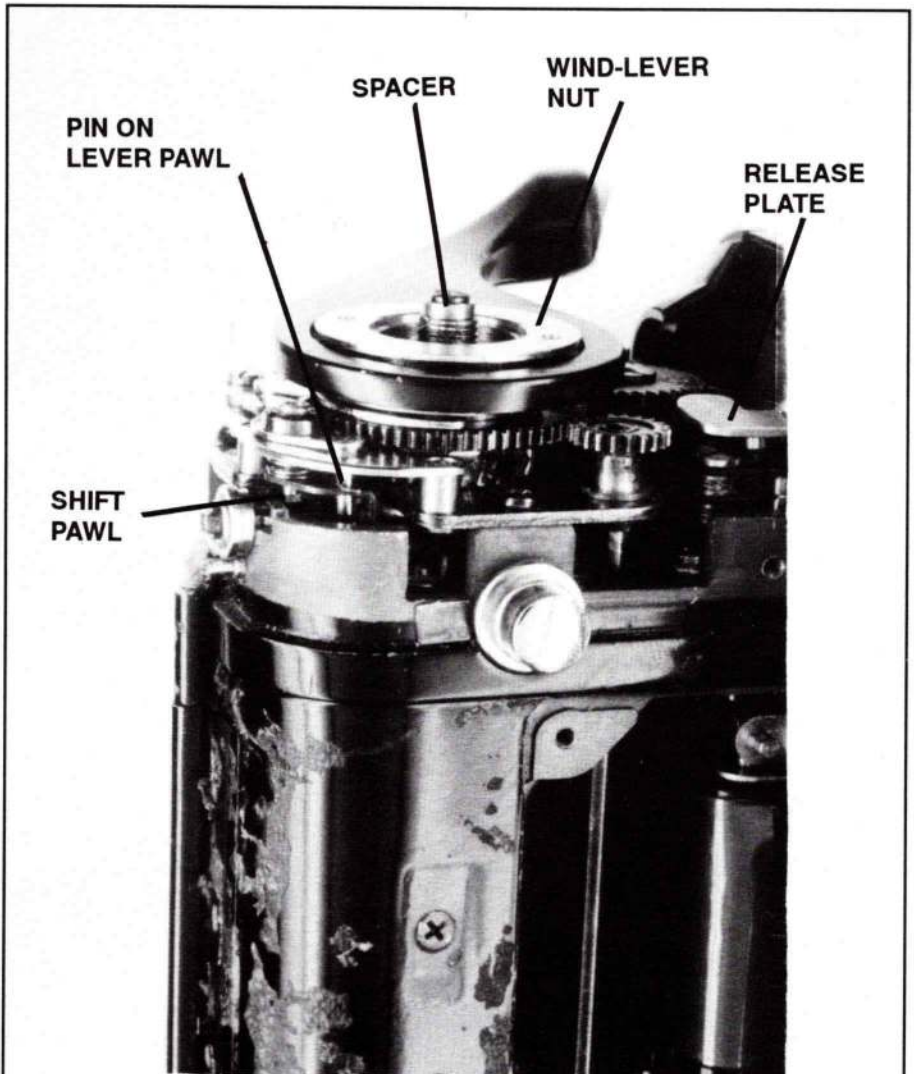
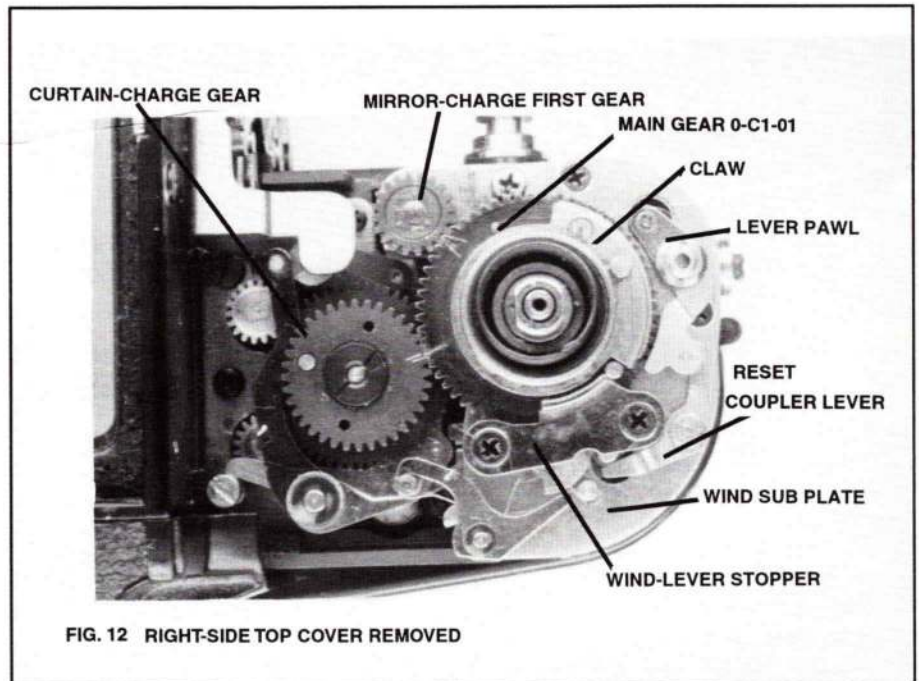
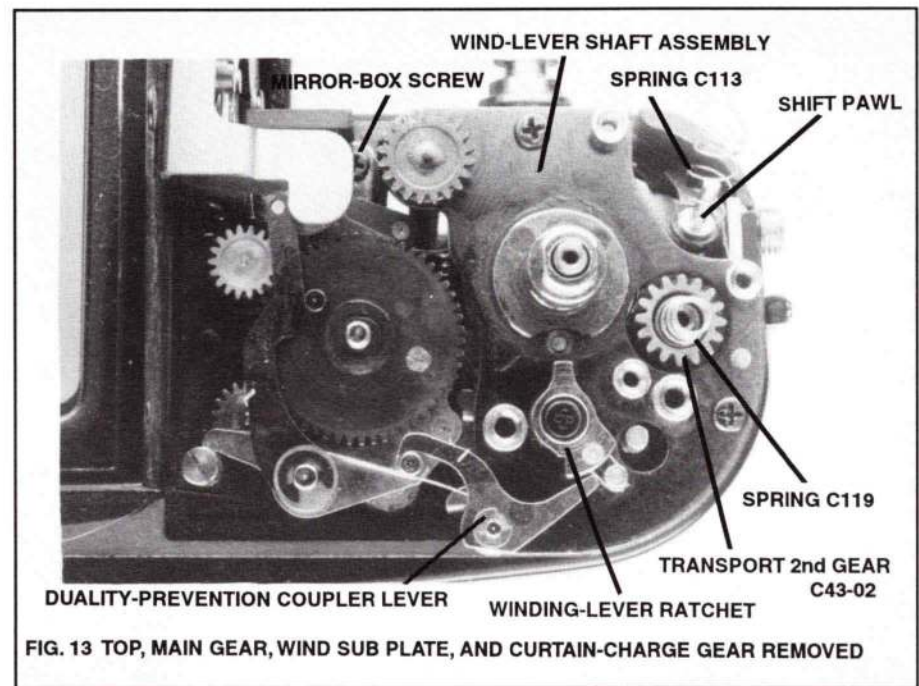
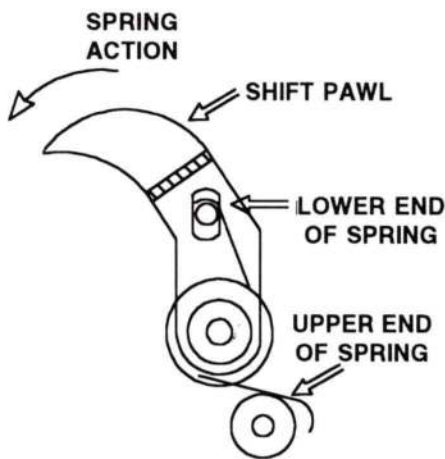

FIG. 11 RIGHT TOP COVER REMOVED, FRONT VIEW
FIG. 12 RIGHT-SIDE TOP COVER REMOVED
FIG. 13 TOP, MAIN GEAR, WIND SUB PLATE, AND CURTAIN-CHARGE GEAR REMOVED
FIG. 17 SHIFT PAWL
Adjust the overtravel on the mirror mechanism by changing the timing between the mirror-charge 1st gear and the main gear, Fig. 12.
Adjust the overtravel on the shutter by changing the timing between the curtain-charge gear and the main gear, Fig. 12.
From the top of the camera, watch the curtain latches, Fig. 18, and the winding-lever ratchet, Fig. 13, as you advance the wind lever. Near the end of the wind stroke, you should see the 2nd-curtain latch (lower latch) drop into engagement with the 2nd-curtain gear. You should also see the winding-lever ratchet disengage and move counterclockwise to free the main gear.
Advance the wind lever until the winding-lever ratchet disengages (moves clockwise). The stop lug on the main gear should then come against—or be within 0.2mm of—the wind-lever stopper, Fig. 12. Pentax supplies the wind-lever stopper in three sizes for adjustment—C27a, C27b, and C27c. If the space gap with C27a is excessive, use C27b.
**Note:** The wind-lever spring normally stays with the main gear, Fig. 12. A straight end at 90° to the spring body fits into a hole at the top of the main gear.
1. Replace the wind lever and the wind-lever nut, Fig. 11.
**Note:** Alternately, you can use a spacer to prevent the counter-dial shaft from moving down. Spacer dimensions: OD—4mm, ID—2.4mm, thickness—1.2mm. Install the spacer and the counter-dial screw as shown in Fig. 11. If you replace a wind-
shutter by pushing down the release plate, Fig. 11.
4. For repeated shutter tests, you may prefer to remove the lever pawl, Fig. 12. The mirror and shutter will then operate—it's not necessary to wedge in the reset actuator plate.
- between main gear and curtain-charge gear, Fig. 12
- 2. remove wind-lever stopper, Fig. 12 (2 screws)
- 3. remove lever pawl, Fig. 12 (retaining ring)
**Note:** If you're replacing the winding-lever ratchet, remove the winding-lever-ratchet screw, Fig. 13; the spring may stay with the winding-lever ratchet.
On reassembly, seat the spring on the underside of the winding-lever ratchet; connect the spring ends to opposite sides of the post on the underside of the winding-lever ratchet. Then, as you install the winding-lever ratchet, connect the spring ends to the opposite sides of the post on the wind-lever shaft assembly, Fig. 13.
1. Align the scribe lines on the main gear with the scribe lines on the mirror-charge 1st gear and on the curtain-charge gear, Fig. 12. If you're installing a new main gear (no scribe lines), turn the mirror-charge 1st gear and the curtain-charge gear clockwise—align the scribe marks with the main-gear position. Install the main gear in the position shown, Fig. 12. If you have no scribe lines for reference, time the main gear as follows:
- a. Turn the mirror-charge 1st gear, Fig. 12, clockwise to its stop—align the scribe on the mirror-charge 1st gear with the main-gear position, Fig. 12.
- b. Turn the curtain-charge gear, Fig. 12, fully clockwise (until it comes against the post on the 1st-curtain gear). Then back up the curtain-charge gear around 2 teeth.
- c. Replace the main gear as shown in Fig. 12. Replace the wind-lever stopper. Temporarily replace the wind lever to check operation.
- d. Since the lever pawl is removed, advancing the wind lever will charge the mirror and cock the shutter. Advance the wind lever fully until the winding-lever ratchet, Fig. 13, disengages from the main gear. Return the wind lever to the start position.
*To increase the overtravel on the shutter, loosen the nut holding the curtain-charge gear, Fig. 12. Lift the curtain-charge gear to disengage it from the main gear. Then turn the curtain-charge gear 1 tooth in a clockwise direction.*
2. To replace the lever pawl, Fig. 12, locate the lower end of the shift-pawl spring C113, Fig. 13—the lower spring end hooks against the lever-pawl pin as shown in Fig. 17. Grasp the lower spring end and pull it toward the end of the camera (clockwise, as seen from the top). Hold the lower spring end as you seat the lever pawl. Pass the pin on the lever pawl through the slot at the top of the shift pawl, Fig. 11. Make sure the pin on the other end of the lever
pawl (underside) passes to the inside of the reset-coupler lever, Fig. 12.
2. remove wind sub plate, Fig. 12 (4 countersunk screws)
3. lift out loose shift pawl, shift-pawl spring, and compression spring above transport 2nd gear, Fig. 13
4. remove duality-prevention coupler lever, Fig. 13 (E-clip—spring stays with duality-prevention coupler lever)
6. remove 2 remaining screws holding wind-lever shaft assembly, Fig. 13 (long screw to front also holds strap lug)
- d. Repeat the procedure to apply 2 more full turns of initial tension to the counter-return spring. The counter-return spring now has 2+ turns of initial tension. To prevent the film-metering cam from moving down and losing the initial tension, install the counter dial or the spacer, Fig. 11.
2. Seat the wind-lever shaft assembly, Fig. 13. Replace the 3 screws (including the post screw).
3. Seat the spring on top of the transport 2nd gear, Fig. 13 (smaller diameter coils up).
4. You can seat the shift pawl and shift-pawl spring as shown in Fig. 13—and then seat the wind sub plate. However, it may be difficult to locate the lower end of the shift-pawl spring—the spring end tends to